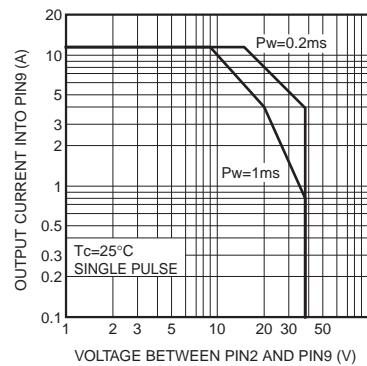

Fig.12 Safety operation range
- (1) No circuit is installed in the modules to protect against excessive output currents. Therefore, take physical safety measures such as using a fuse if short-circuit loading is probable.
- (2) The output current should be reduced according to an increase in the input voltage or ambient temperature. Use the modules within the derating curve range.
- (3) A large rush current may flow in the module when the input voltage is applied or the output ON / OFF is controlled with pin 4 without a capacitor such as C1 in application 4. Operating within the safe operation ranges shown in Fig.12, 15, and 18. The safe operation range is determined by the safe operation range of the internal switching transistor. The amount of rush current depends on the output impedance of the input power supply and capacitors connected to the module outputs. The pulse load on the internal switching transistor at the start of operation can be reduced by using the protection circuit in application 1 or the slow start circuit in application 4.
- (4) Pins 5 and 7 are not connected.
- (5) A smoothing electrolytic capacitor is necessary for I/O external components. Please use a capacitor equivalent to the recommended one.
- (6) Please put an I/O smoothing capacitor near the module. Output ripple voltage may be larger or output voltage may not be stable.